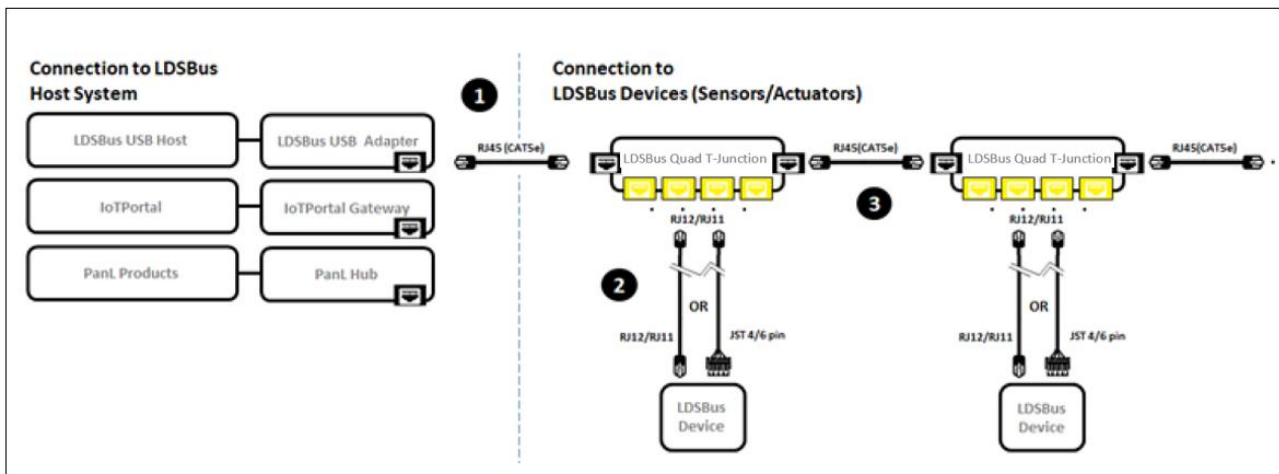

Figure 2 - LDSBus Quad T-Junction in LDSBus System – Connection Diagram
Figure 2 illustrates the connection of the LDSBus Quad T-Junction (LDSBus Device) in an LDSBus system.
2. Connect the configured LDSBus Device(s) to the LDSBus Quad T-Junction as shown in Figure 2.
3. If there is more than one LDSBus Quad T-Junction, chain them together as shown in Figure 2.